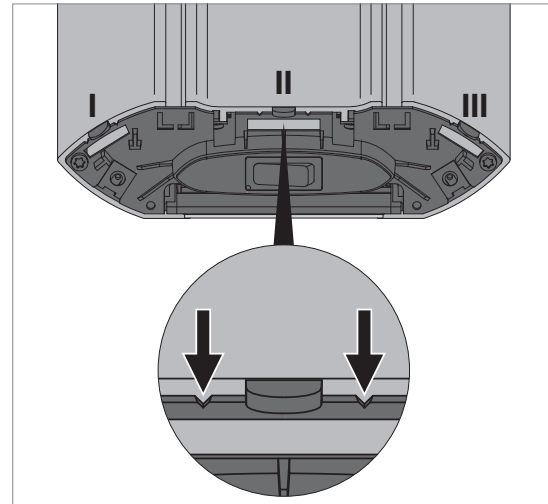

Fig. 1: Preparing the cable bushing.
- ▶ Remove the cable bushing at the notches in positions I, II or III, where the connecting cable is to emerge from the luminaire, using a pair of pliers, see Fig. 1